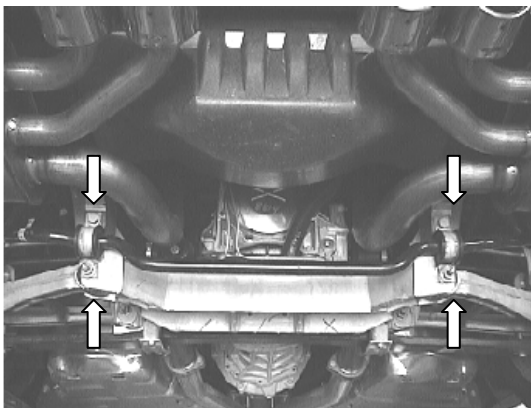

Figure 1
1. Remove two top bolts and two bottom nuts shown in figure 1 securing the anti-sway bar leaving the bottom bolts, which run through the lower control arm in place.